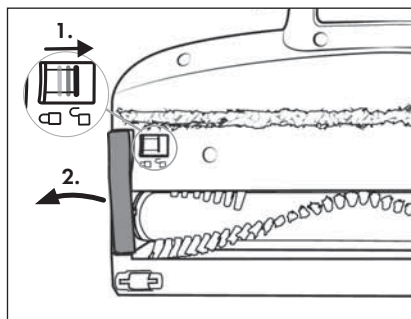

Fig. 26
① Note
- 2) Unlock the rotary brush **21** by sliding the rotary brush release **19** with your finger towards the symbol  (open). Remove the rotary brush holder **20** from the floor brush **22** (see Fig. 26).